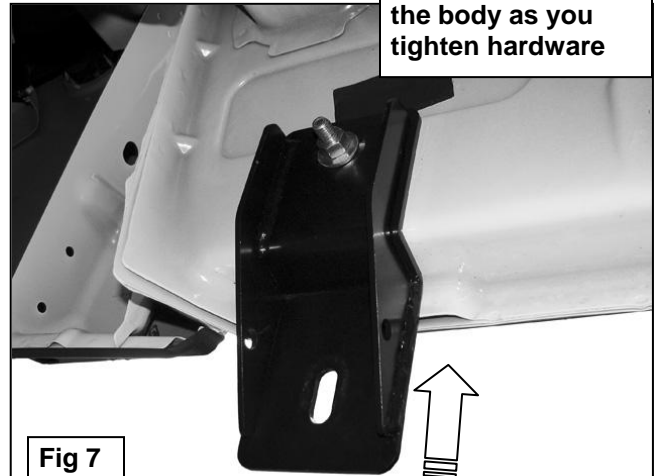

Fig 7
8. Next, move to the rear mounting location and remove the tape covering the single factory hole. Select (1) 12mm Bolt Plate and install it as described in Steps 2 & 3, **(Figure 6)**. Select the driver side Rear Mounting Bracket. Position the Mounting Bracket onto the installed Bolt Plate. Secure it with (1) 12mm Flat Washer, (1) 12mm Lock Washer and (1) 12mm Hex Nut. Push Bracket up against the body as you tighten the hardware, **(Figure 7)**.